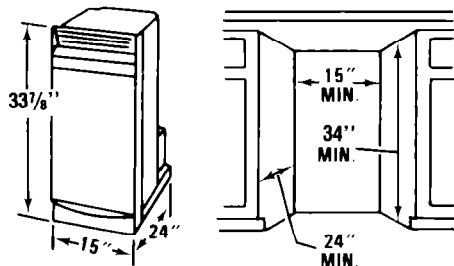

FIGURE 4
3. The compactor's overall dimensions are: Height $33\frac{7}{8}$ " (min.), Depth 24", Width 15". Select a cabinet opening to fit. *See Figure 4.*